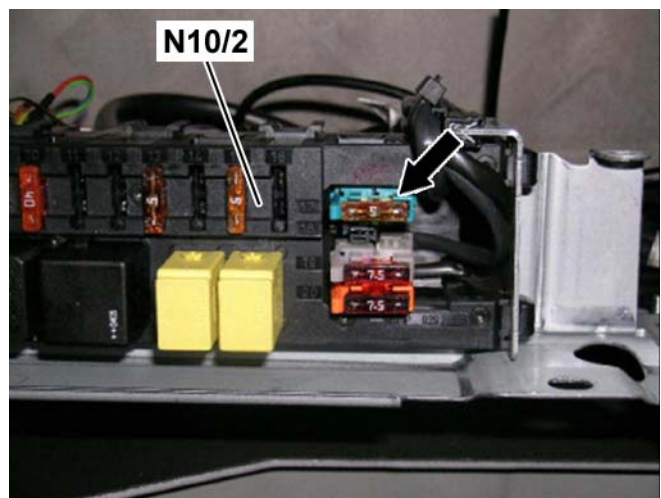

Figure 27
4. Check the fuse at slot 17 (Arrow, Figure 27) on rear SAM control unit with fuse and relay module (N10/2, Figure 27).